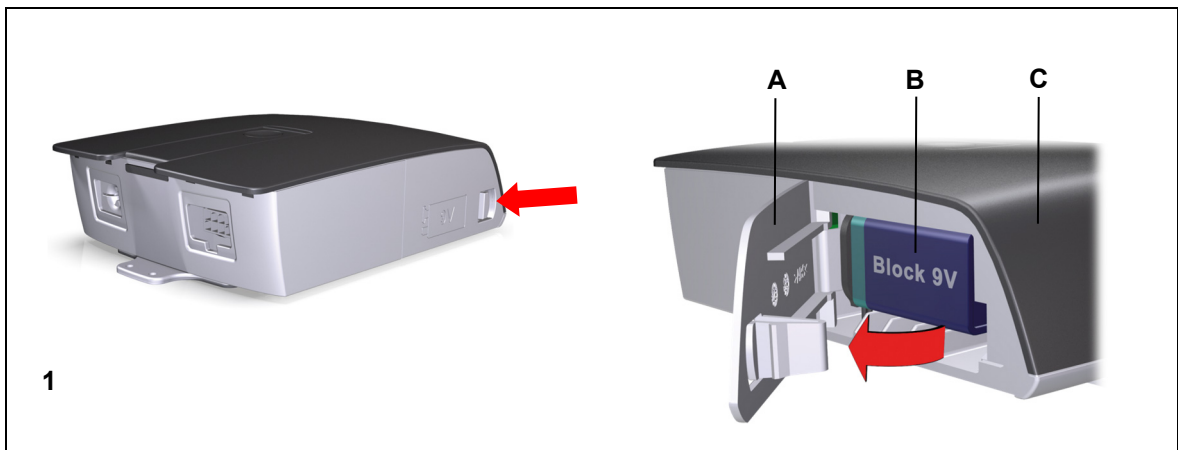

Figure 9 Opening the battery case cover
- 1 Open the battery case cover on the side of the HE-300 SMPS POWER SUPPLY (press down on the catch clip, as shown in Figure 9).